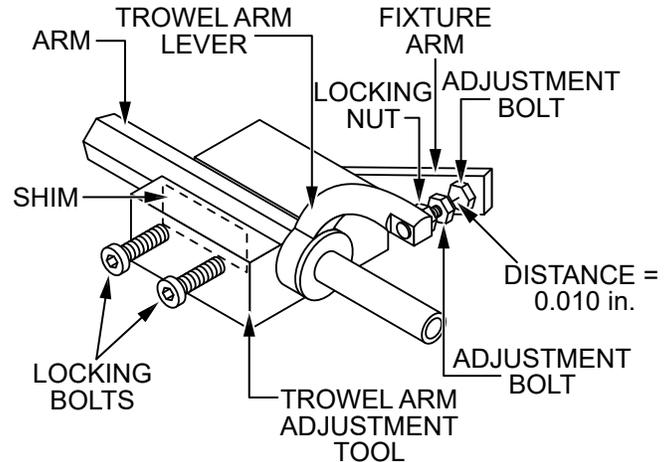

Figure 58. Trowel Arm Adjustment
4. Unscrew the **locking bolts** on the adjustment tool and place the **trowel arm** into the fixture channel as shown in Figure 58. A thin **shim** may be required to cover the blade holes on the trowel arm. Make sure to align the **trowel arm adjustment bolt** with the **fixture adjustment bolt**.
5. Tighten the locking bolts (Figure 58) with an Allen wrench to secure the trowel arm in place.
6. Loosen the **locking nut** on the **trowel arm lever** (Figure 58), then turn the trowel arm adjustment bolt until it barely touches (0.010") the fixture adjustment bolt.